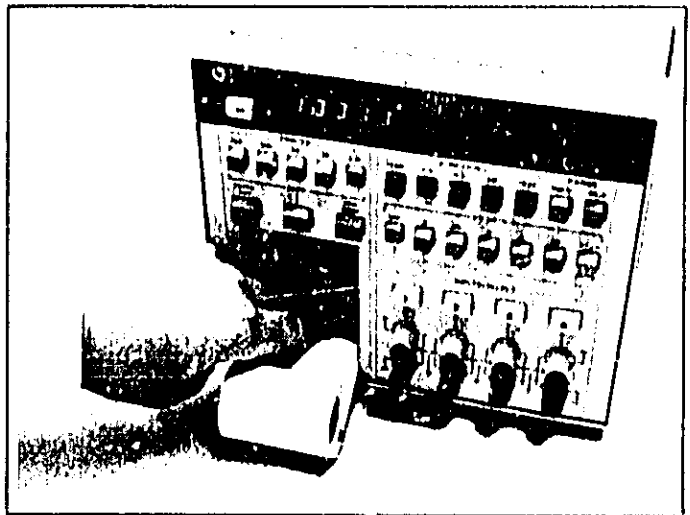

Figure 2-2. Installing Thermal Paper.
- d. Temporarily place the paper roll into the paper well door and guide the leading edge of the paper into the slot at the rear top of the paper well. Refer to Figure 2-2 or the illustration on the inside of the paper well door.